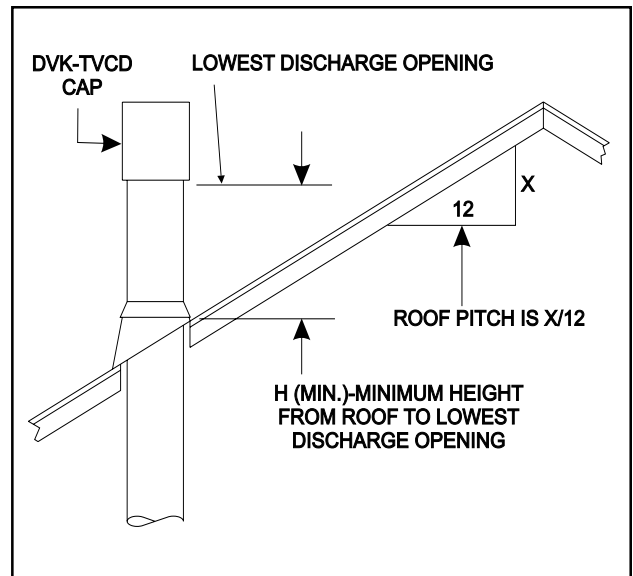

FIGURE 7
**WARNING:** A 12-inch (305mm) minimum chimney and/or flue height above the roof top is necessary in the interest of safety. See Figure 7.